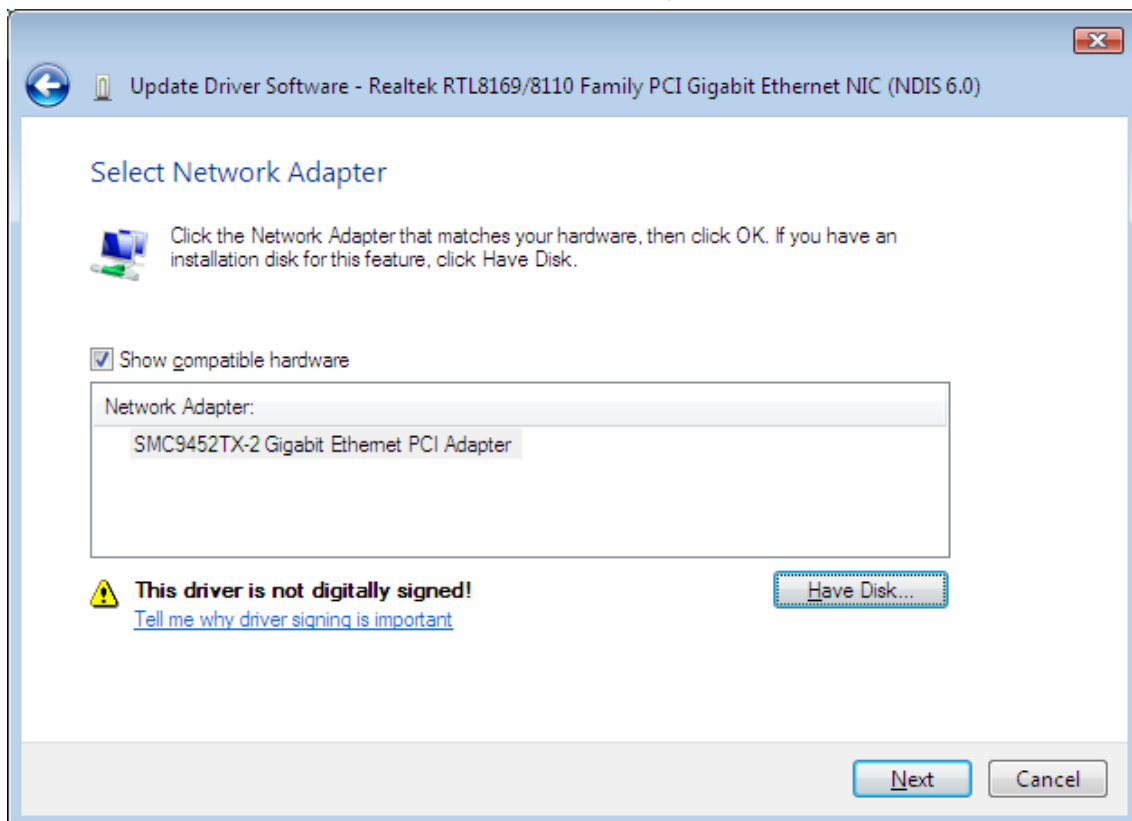

Figure 2-28
step 1. Insert the Driver & Installation CD into your CD-ROM drive, right-click the **Computer** icon as shown in the Figure 2-28, select the **Properties**.